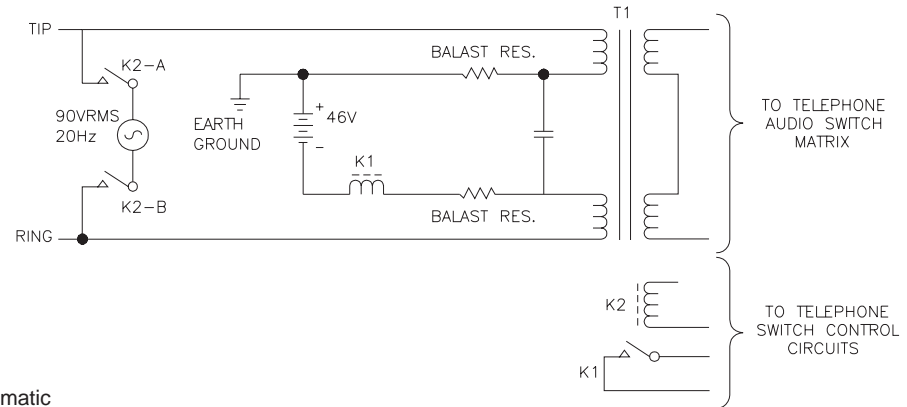

Figure 14. Subscriber interface circuit schematic
The telephone company provides a single pair of wires for every telephone line within the service area of the Central Office (CO). The pair of wires are twisted to form a balanced transmission line. This twisting of two identical wires provides for the rejection of hum and noise on the telephone line. This single pair of wires provides simultaneous transmission of both send and receive audio, DC current to power the user's telephone, and ringing voltage signals. The diagram below (Figure 14) is a schematic of the subscriber interface circuit at the CO.
The two wires coming from the CO are called tip and ring. These names carry over from the days of the old manual switchboard when an operator manually interconnected callers with patch cords. The tip and the ring terminals of the plug on the patch cord provided the connections to the caller's telephone. It is very easy to identify tip and ring using a standard voltmeter; as Figure 14 indicates, tip is positive and ring is negative. The open circuit voltage on the telephone line is 48V.